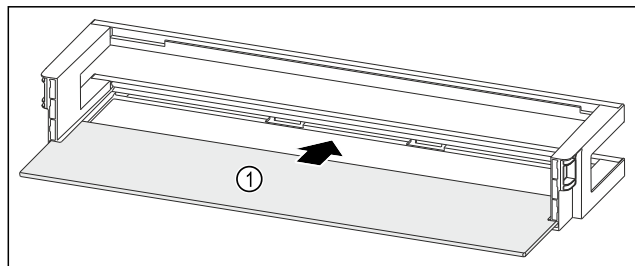

Fig. 66 Door rack with shelf
- ▶ Push the shelf Fig. 66 (1) into the side recesses.